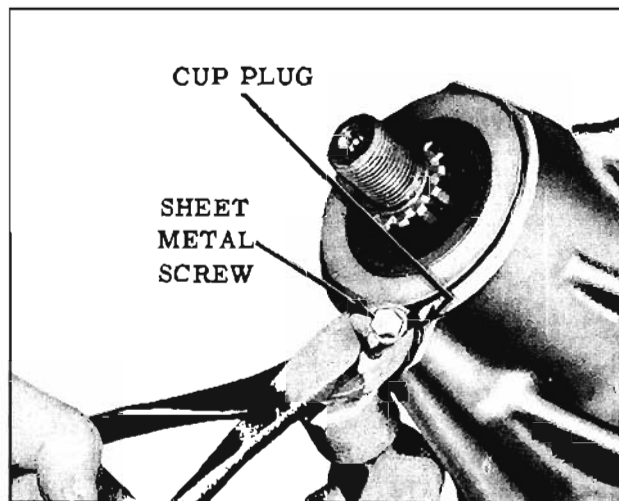

Fig. 10-11 Removing Cup Plug
3. Remove plug as shown in Fig. 10-11.